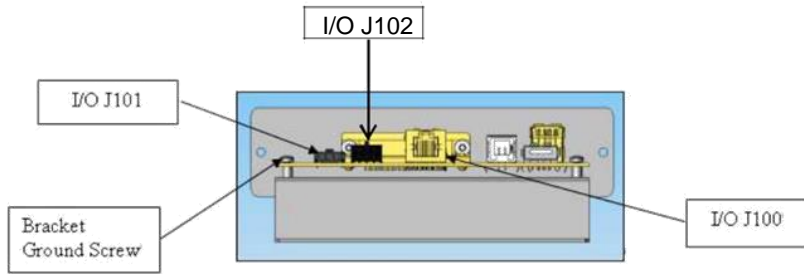

Figure 4: I/O Bracket
7. Connect the P102 Molex receptacle on the flapper box wire harness to the J102 connector on the I/O board (“Figure 4: I/O Bracket”).